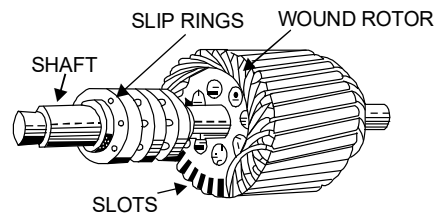

Fig. 4.4: Phase wound rotor
- (ii) **Phase wound rotor** : Phase wound rotor is also called slip ring rotor and the motors employing this type of rotor are known as *phase wound* or *slipring induction motors*. Slip ring rotor consists of a laminated cylindrical core having semi-closed slots at the outer periphery and carries a 3-phase insulated winding. The rotor is wound for the same number of poles as that of stator. The three finish terminals are connected together forming star point and the three start terminals are connected to three copper slipings fixed on the shaft (see fig.4.4).